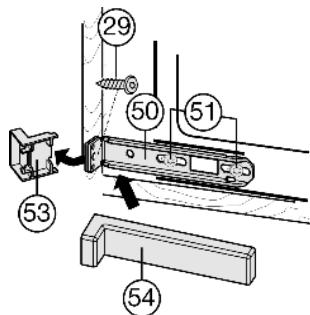

Fig. 19
- ▶ Loosen the screws *Fig. 19 (51)* a little.
- ▶ Tightly screw the bottom mounting bracket *Fig. 19 (50)* to the unit wall using Spax screw *Fig. 19 (29)* $\varnothing 4 \times 19$.
- ▶ Break off the projecting end of the cover *Fig. 19 (53)*. It is no longer required.
- ▶ Tighten the screws *Fig. 19 (51)*.
- ▶ Put the cover *Fig. 19 (54)* on the bottom mounting bracket *Fig. 19 (50)*.